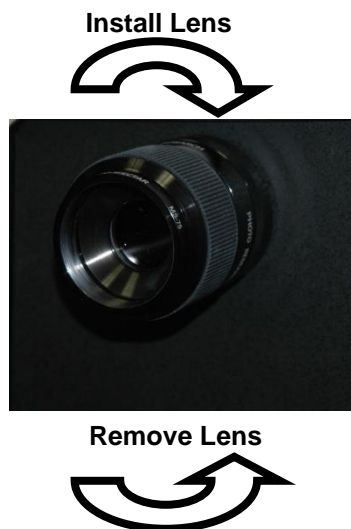

Figure 16 - MS-75 objective lens.
The standard objective lens is installed by aligning the lens thread with the instrument's lens mount thread and rotating clockwise while grasping the rubber ring toward the rear of the lens (see **Figure 16**). The thread should offer minimum resistance during installation.
1. Grasping the rear rubber ring (see **Figure 16**) turn the lens counterclockwise until the lens separates from the lens mount.
1. Grasping the rear rubber ring (see **Figure 16**) turn the lens clockwise until the lens seats on the lens mount.